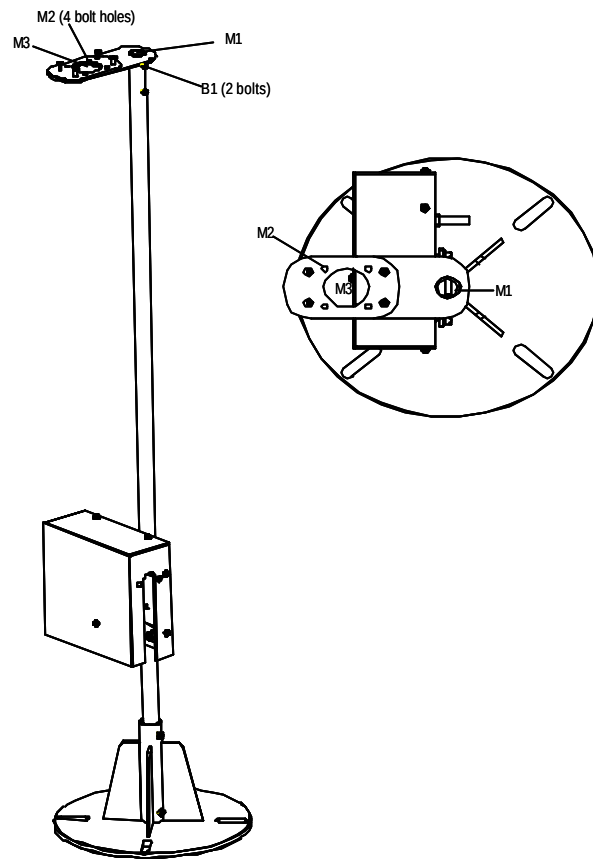

Figure 7-4 Structure of GPS antenna support
Figure 7-4 illustrates the antenna support installed on building roof.
- 1) Insert the jumper connector at the antenna bottom into M3 of the bracket as shown in Figure 7-4;
- 1) UNONCORE GPS antenna has such auxiliary fixtures as a rubber washer, a metal flat washer and a bolt. Upon installation, first unfix the bolt at the antenna bottom and install the rubber washer instead. Then insert the antenna into M3 as shown in Figure 7-4;